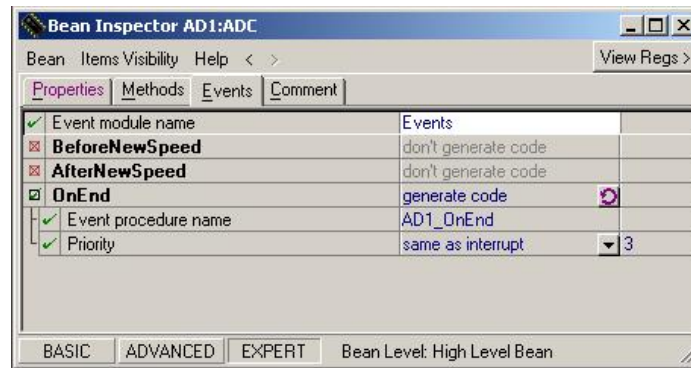

Figure 29. Bean Inspector Window - Events for ADC Bean
6. Set the Events configuration for this bean. Select the Events tab (Figure 29) in the Bean Inspector window. For the ADC bean the event OnEnd is very important. Once this event is enabled, every time the ADC completes a conversion, an event occurs.